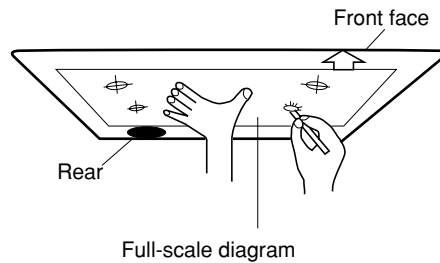

Fig. 3-17
(1) Place the full-scale diagram (supplied) on the ceiling at the spot where you want to install the indoor unit. Use a pencil to mark the drill holes. Refer to Table 3-1 and Figs. 3-17 and 3-19.
- (1) When placing the unit inside the ceiling, determine the pitch of the suspension bolts using the supplied full-scale installation diagram. (Fig. 3-17)